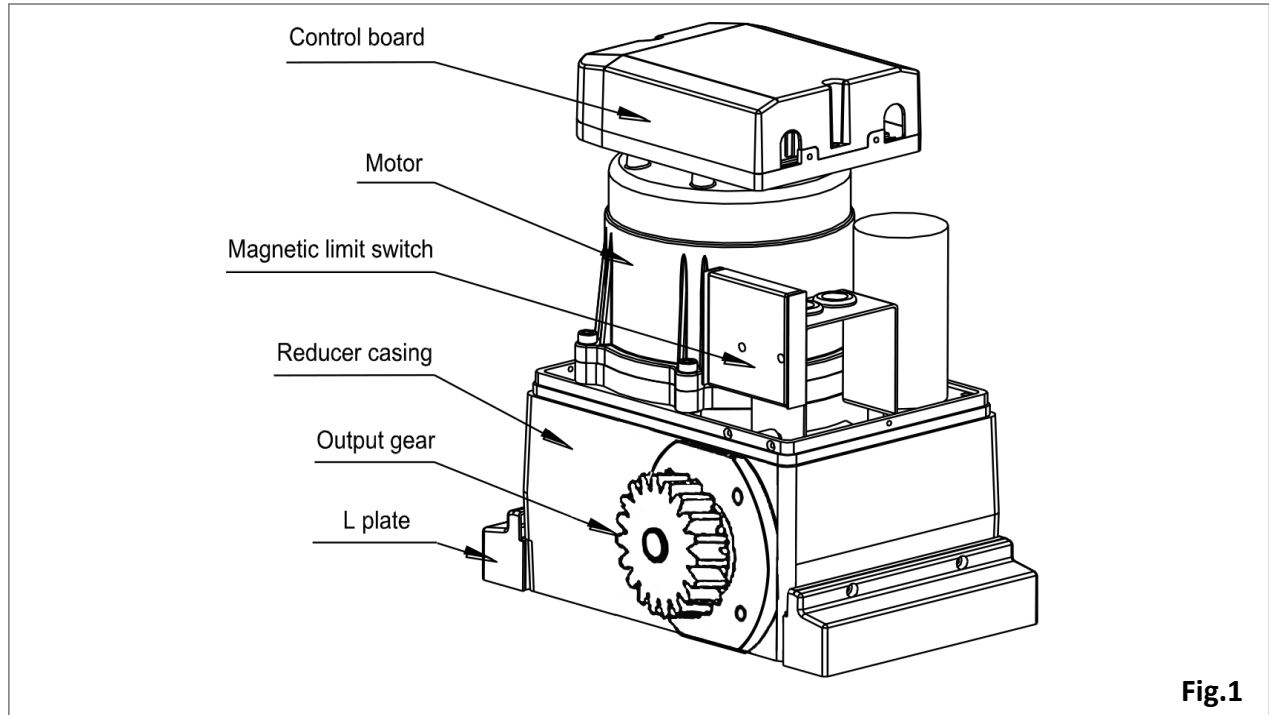

Fig.1
2. WORKING PRINCIPLE & MAIN STRUCTURE (Fig.1)